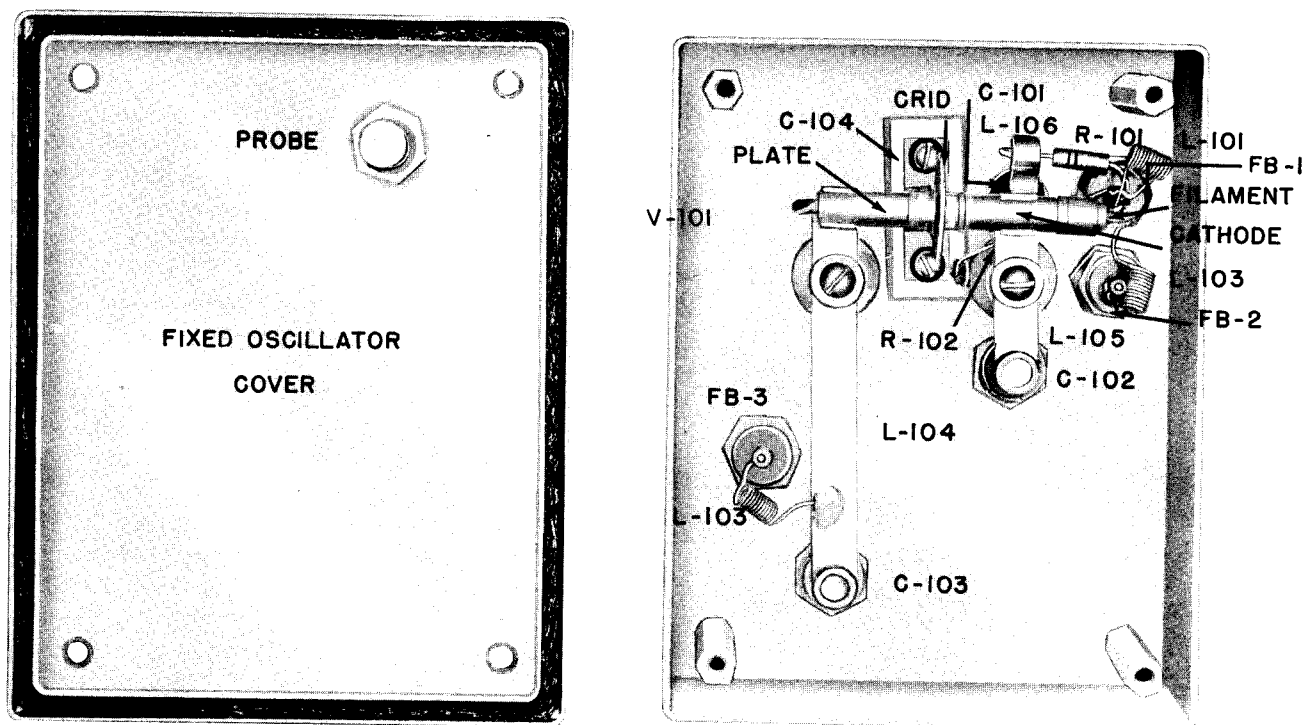

Figure 53 Interior View of Fixed Oscillator
1. Remove the fixed oscillator compartment cover by removing four screws. The tube will be seen mounted in the horizontal position. Refer to Figure 53.